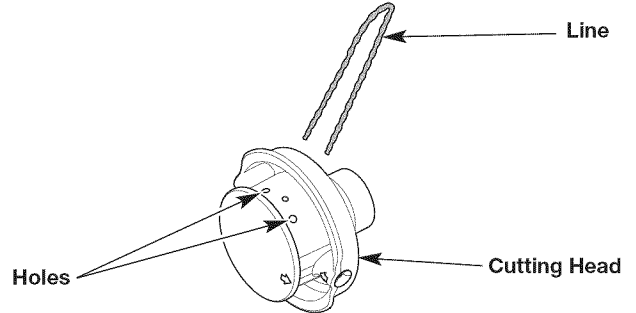
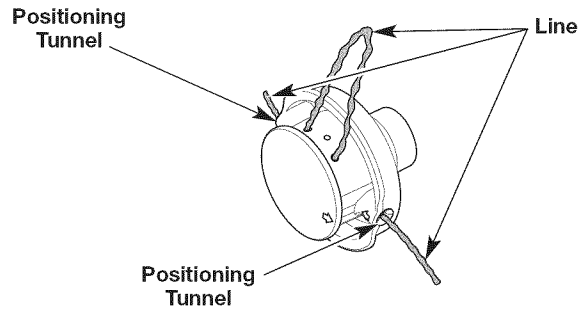

Fig. 12
Fig. 13
3. Insert the ends of the line through the large circular holes in the side of the cutting head (Fig. 12). Push the line through the holes until both ends protrude from the positioning tunnels (Fig. 13).